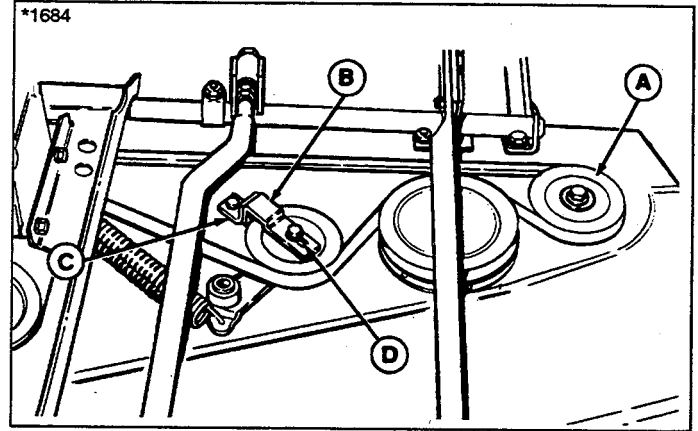

Figure 30. Idler Bracket
1. When the belt is installed, the bracket (B, figure 30) should touch the stop (C, figure 30). The bracket has a slot (D) so it can be adjusted. If necessary, loosen the fasteners and move the bracket (B) toward the stop.
2. If the bracket cannot be moved far enough to touch the stop (C), the idler pulley (A) can be repositioned. Remove the mounting hardware, noting the position. Reinstall the pulley in the hole in the mower deck which is slightly farther away from center of mower.